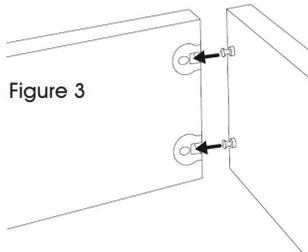

Figure 3
- Arrange the (4) kick base boards to form a square. At each corner of the square, set the camlock pins of one board into the camlocks of the adjacent board. (See Figure 3)